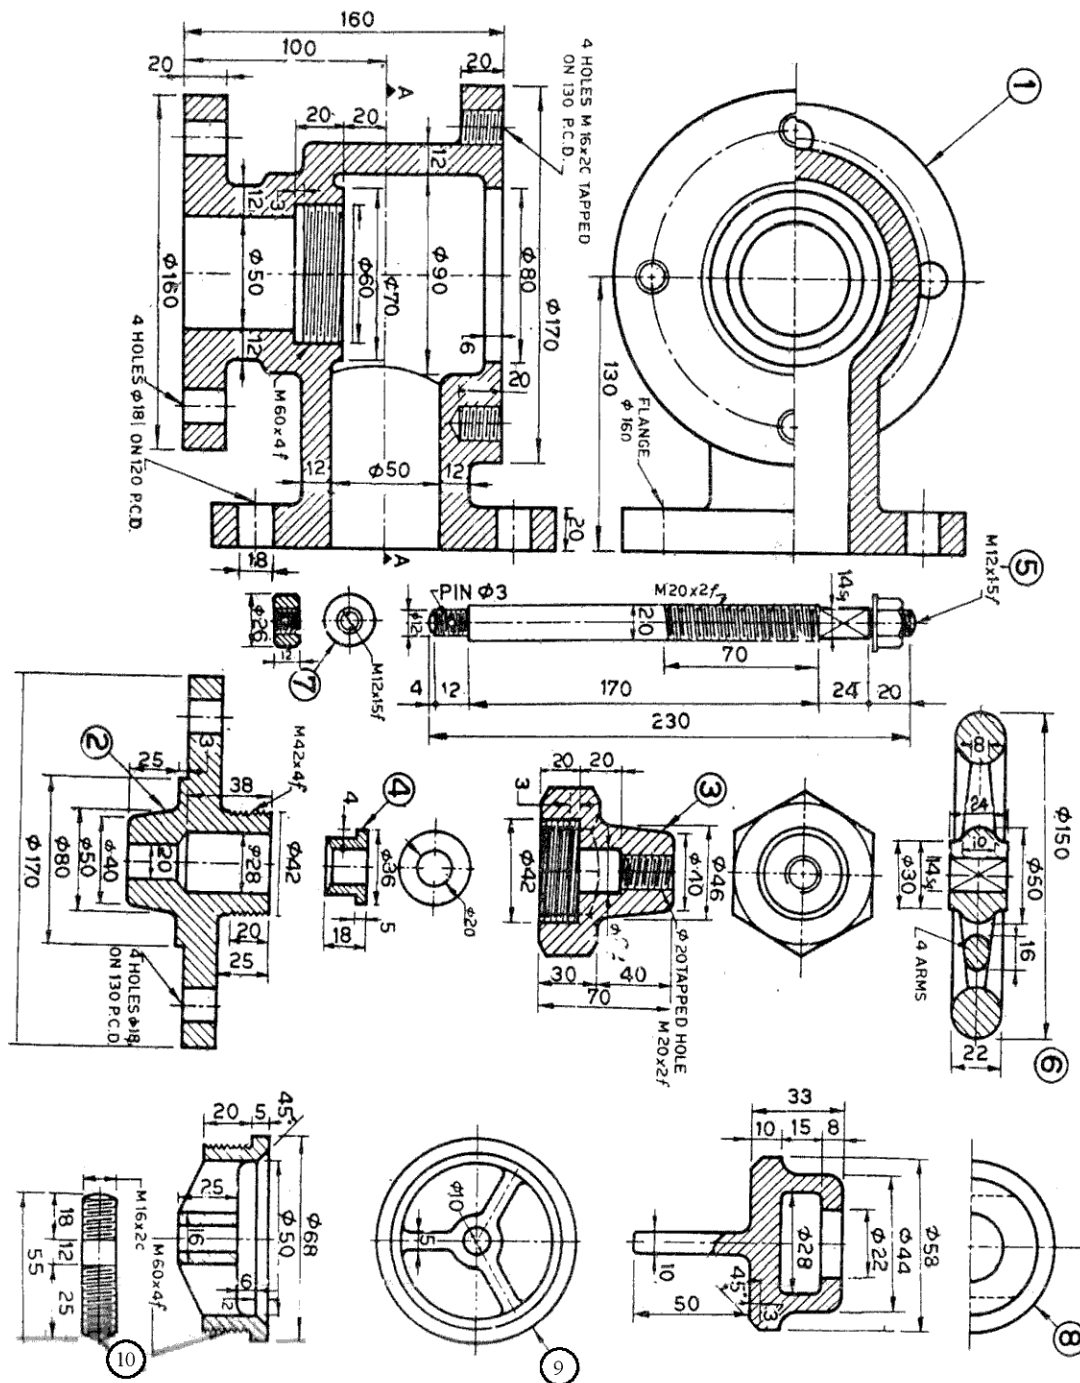

FIG.2
15. Assemble the parts of a **Stop Valve** given in Fig.2 and draw the following views (with bill of materials) :